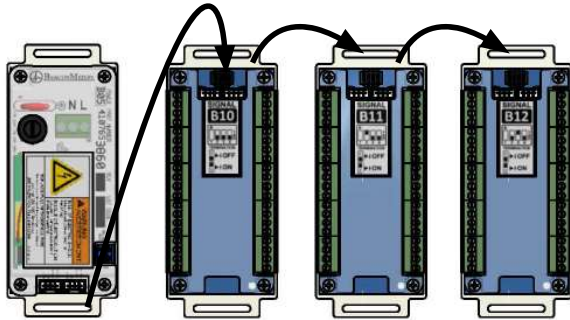

Figure 122: Daisy Chain of Power Supply
3. Connect the grey cable(s) provided; from the power supply to the white sockets on the I/O modules in a daisy chain manner (Figure 122).
NOTE: I/O Modules and Power Supply will need to be daisy chain connected via the grey cables supplied with each I/O module (See figure 122).